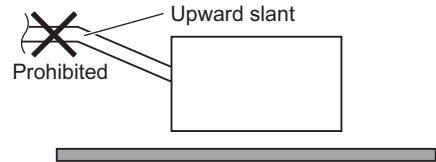

Fig. 1-119
- Do not install the pipe with an upward slant from the connection port. This will cause the drain water to flow backward and leak when the unit is not operating. (Fig. 1-119)